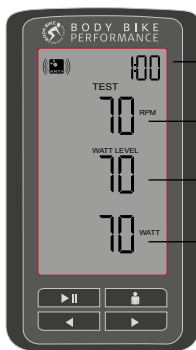

Figure 40
- 4) The top figure is your cadence. This should be as close to 70 as possible, see figure 40.
5) The middle figure is the watt you need to attain and the bottom figure is how many watt you are currently performing, see figure 40. Adjust the tension until you attain the watt prescribed in the middle figure. The arrows at the bottom left of the screen will tell you if you need to add more tension or release tension.
6) Every 2 minutes, the watt will increase by 35 watt. Adjust tension to match again. You can follow the time in the top right corner of the display, see figure 40.